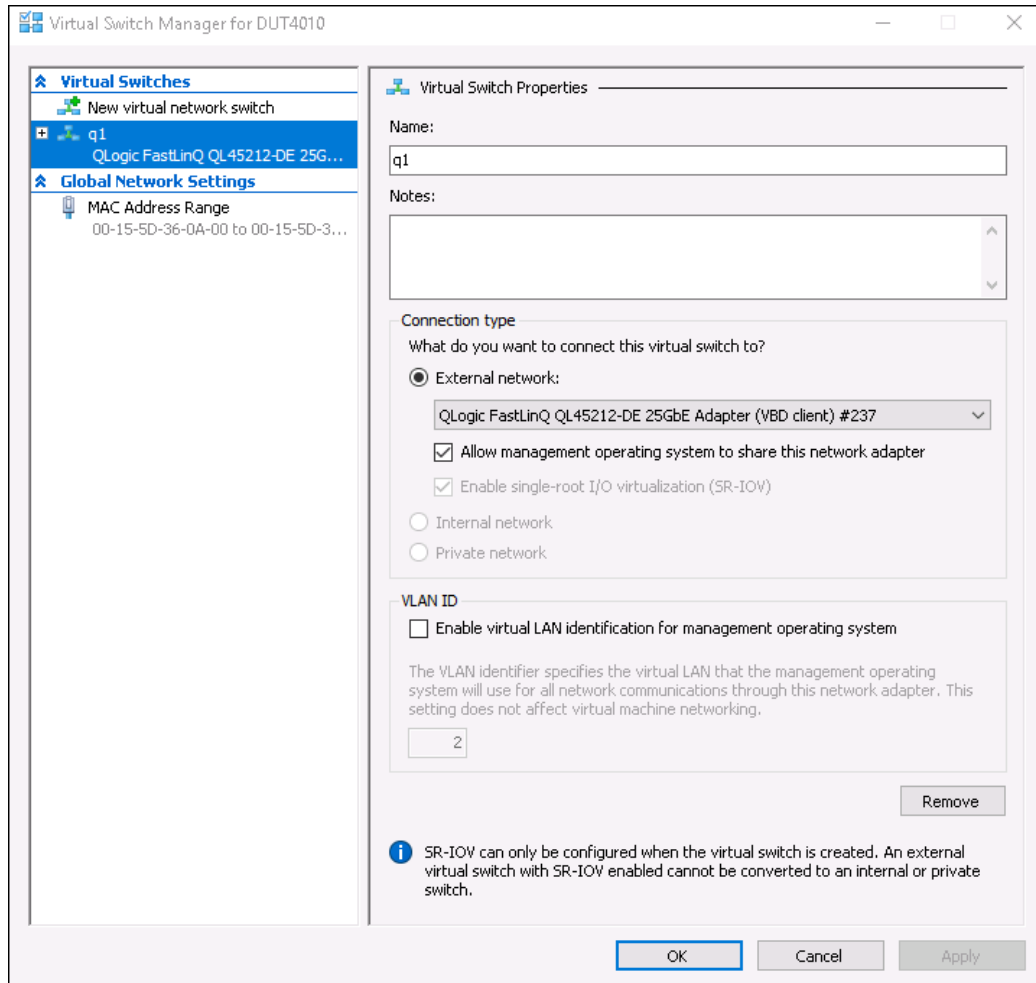

Figure 9-14. Virtual Switch Manager
2. Select **Virtual Switch Manager** (see Figure 9-14).